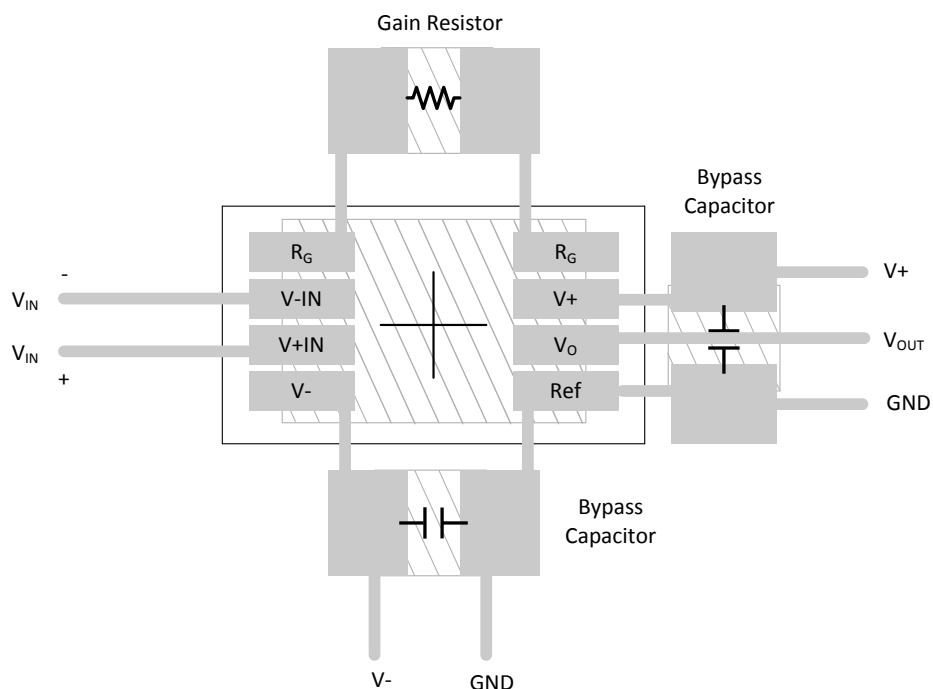

Figure 7-9. INA126 Layout Example
- Place the external components as close to the device as possible. As illustrated in Figure 7-9, keep R_G close to the pins to minimize parasitic capacitance.